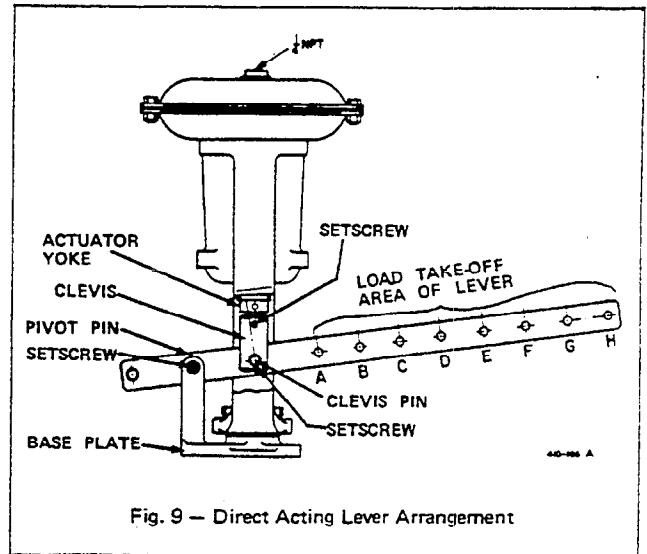

Fig. 9 — Direct Acting Lever Arrangement
3. Loosen set screw locking clevis to actuator stem and turn clevis so clevis pin hole faces open area between base plate and actuator yoke. Place lever in clevis so that actuator stem is between the pivot and the load take-off as shown in Fig. 9. Insert clevis pin.